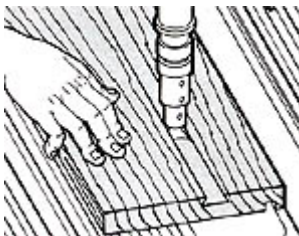
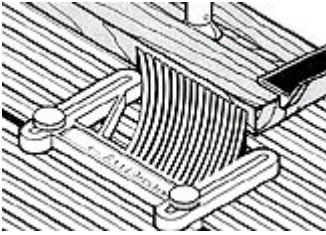

Fig. 7 Routing dovetail slot for drawer guide. Two passes are needed; both at full 1/4" depth.
Fig. 8 Routing dovetail drawer guides with feather board firmly holding stock against fence. Push against router rotation.
8. To cut the self-aligning sliding dovetails in drawer sides (J), use the Mark V in the drill press mode with a dovetail router bit (Fig. 7). Next, with the Mark V still in the drill press mode, rout the drawer guides (G), (Fig. 8).